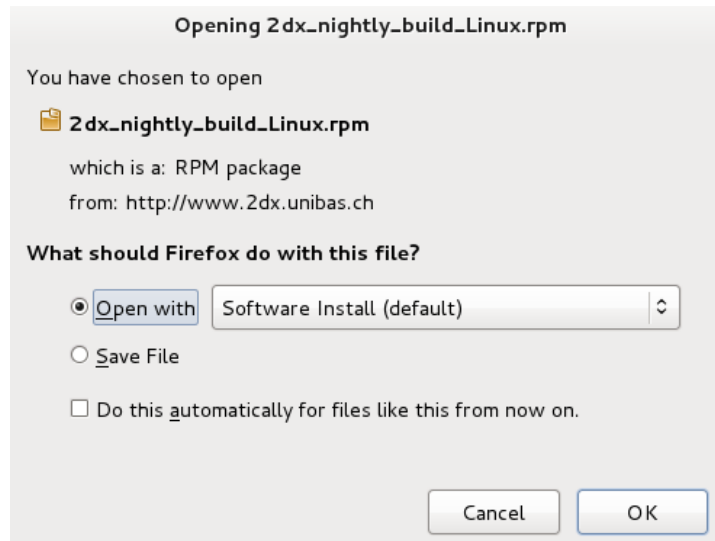

Figure 9: Download dialog on Fedora
1. If you download the package `2dx_nightly_build_Linux.rpm` from our homepage Firefox asks you what you want do do with the downloaded file (Figure 9). The easiest way to launch the installation process of the package directly is clicking on the "ok" button. Alternatively you can also download the package and then double-click on it.